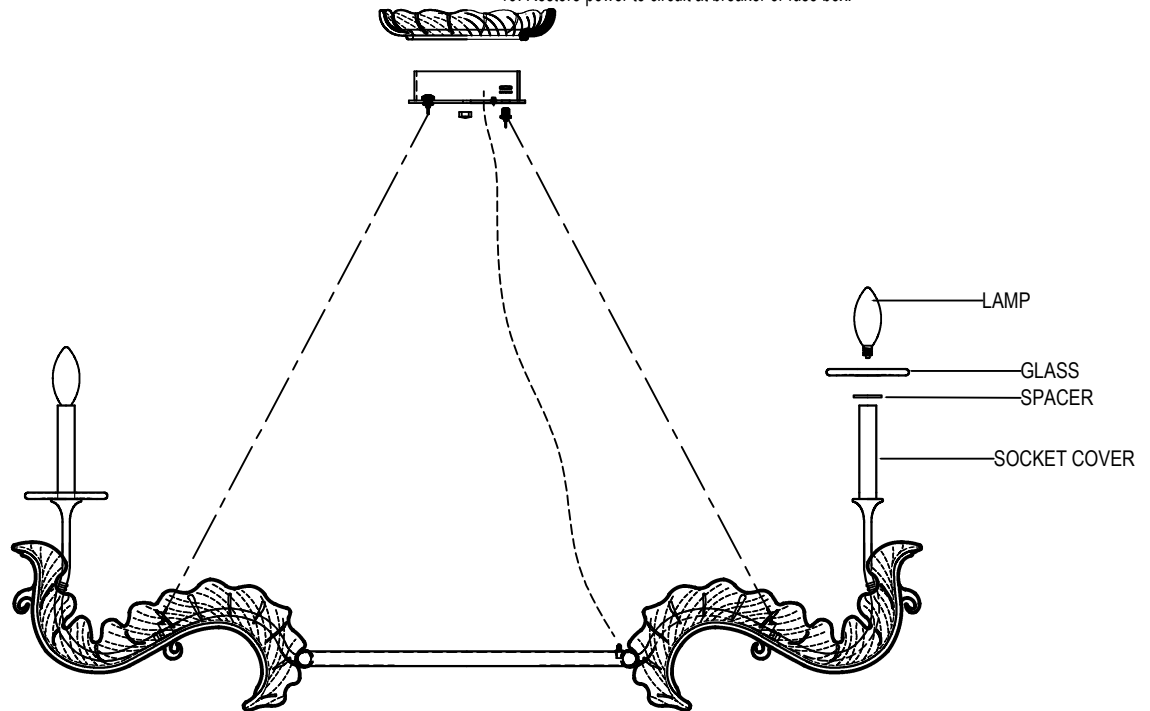

FIGURE-2
3. To change the drop height based on your desired height, push the tab down on the grip post either pull or push the aircraft cable. Repeat this to all aircraft cable until the fixture is level and with the desired height. (Refer to Figure-2)
4. Adjust the SVT wire base on the desired height. Pull/push the SVT wire to the bushing and leave 8" lead and ground wire above the canopy and cut the excess wire. (Refer to Figure-2)